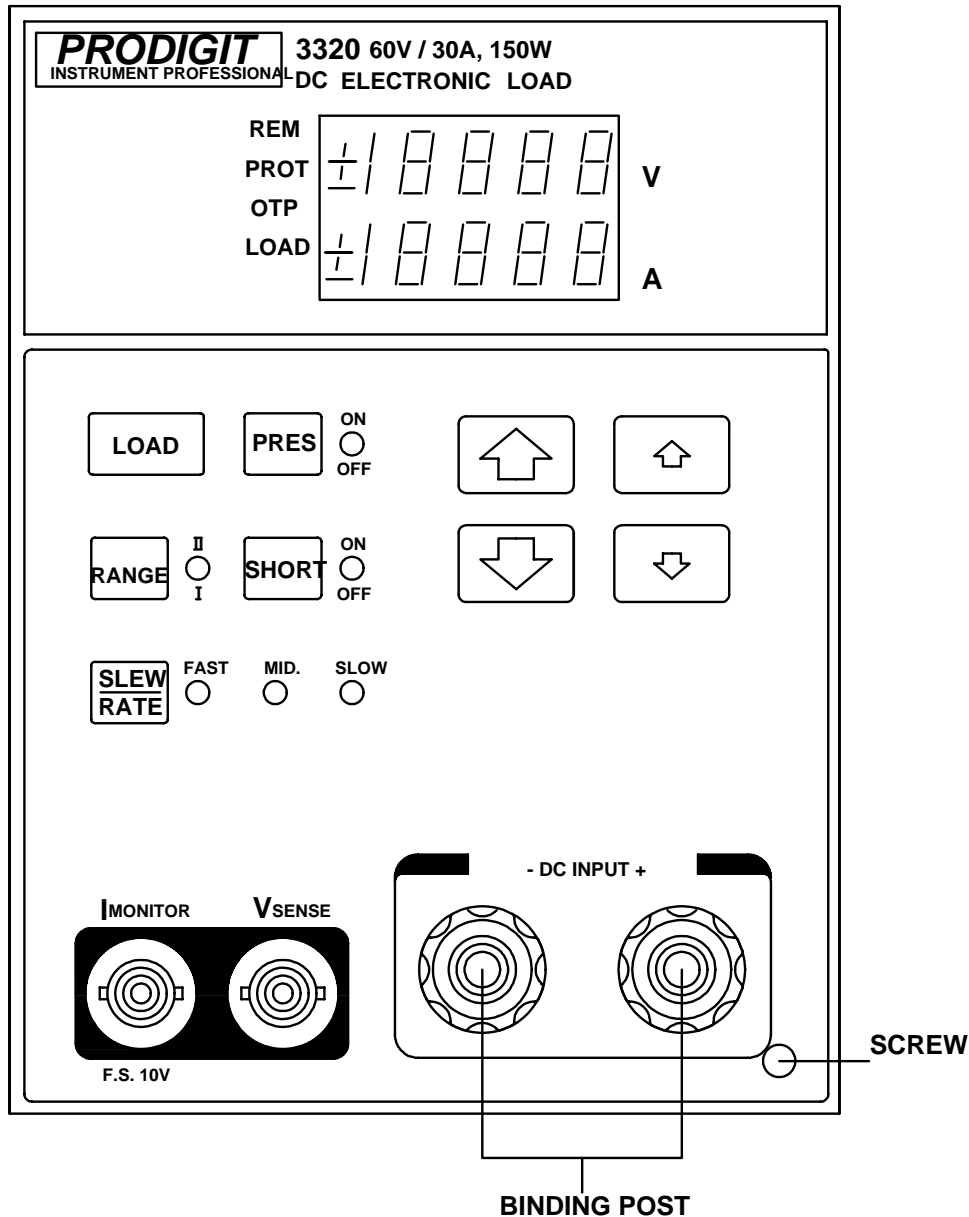

Fig 2-1 Binding post and screw on the front panel of 3320 series plug-in load module
4. Fasten the screw on the lower and right hand side corner of the 3320 series front panel with screw driver, the screw location is shown on Fig 2-1.